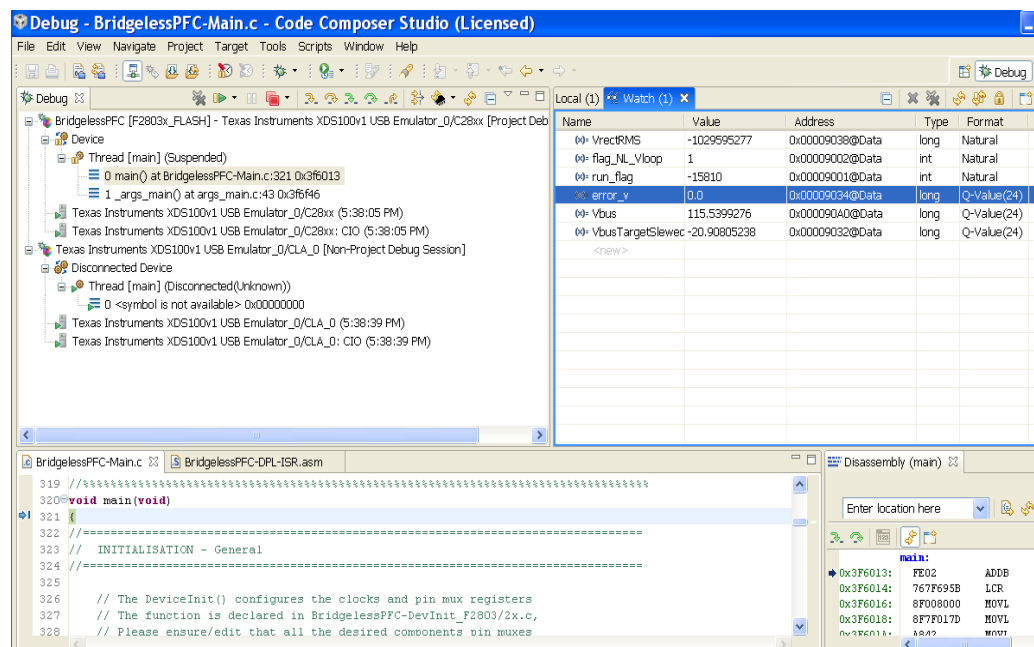

Figure 3.1.4. CCS watch view for Build 1
Click the “Watch (1)” tab at the top watch view. You may add any variables to the watch view. In the empty box in the “Name” column, type the symbol name of the variable you want to watch and press enter on keyboard. Be sure to modify the “Format” as needed. The watch view should look something like the following in Figure 3.1.4